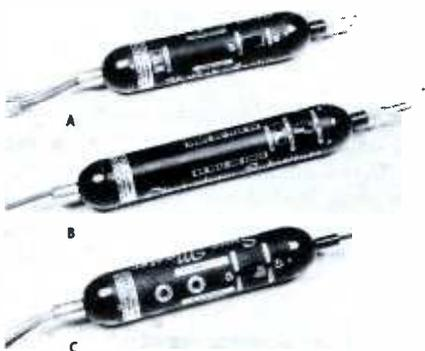

Fig. 1. Doss troubleshooting probes have removable tips, thumb switches.
The units pictured in Fig. 1 are recent products of Doss Electronic Research, Inc., Kansas City, Mo. Especially designed for the radio and TV technician, these probe-styled instruments are identified as: (A) the *Hi-Leak Analyzer*, Model D-400; (B) the *Electrolytic Substitute*, Model D-600; and (C) the *Sync Master*, Model D-700.